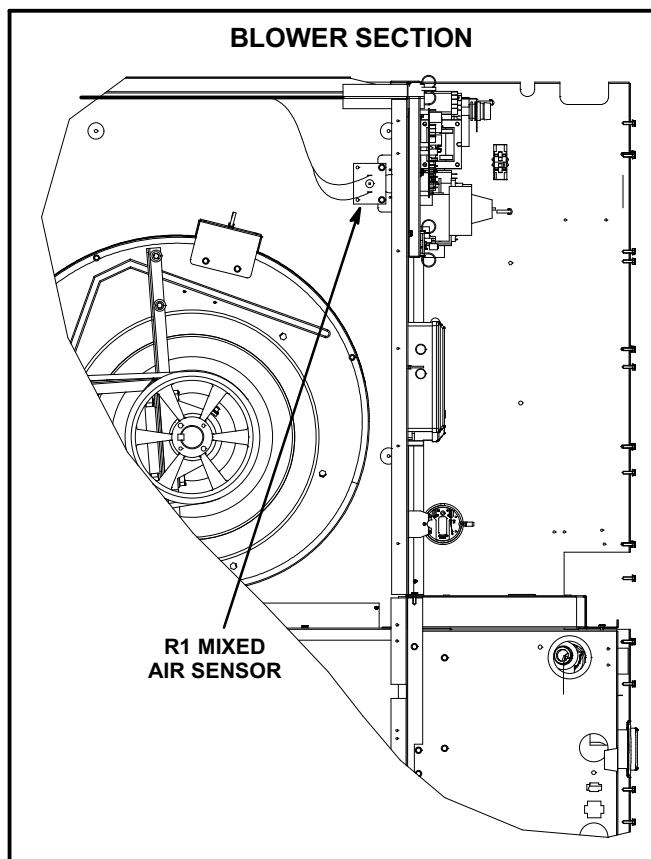

FIGURE 6
- 2- Install sensor on bracket as shown in figure 6.